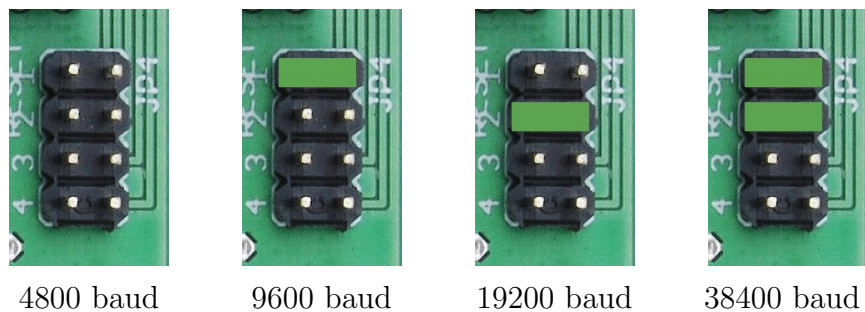
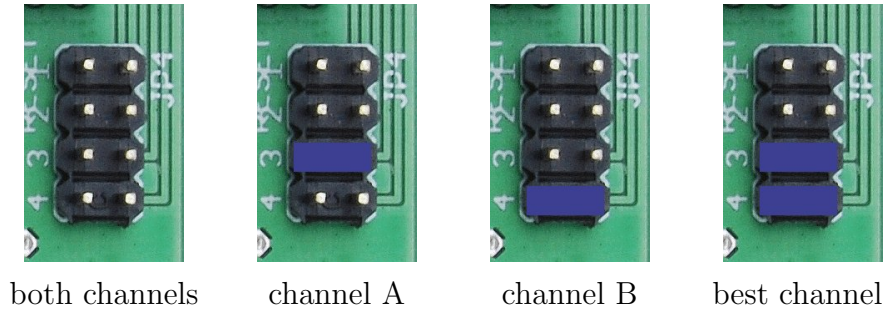

Figure 43: Setting of Jumper JP4 of PCB 6 Version 6
Figure 44: Setting for Jumper JP4 of PCB 6 Version 6
3. Jumper JP4 of PCB 6 Version 6 serves two functions. First, it allows you to change the baud rate of the board between 4800, 9600, 19200, and 38400 baud, 8 bit, 1 stop bit, no parity, see Figure 43, and second, it can be used to switch between different output formats, see see Figure 44.